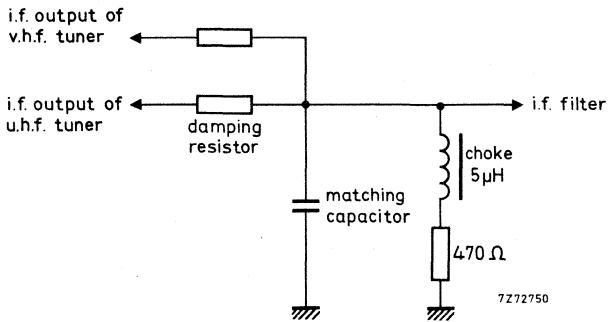

Fig. 8.
The tuner needs a d.c. path from the i.f. output terminal (10) to earth, preferably via a choke of approx.  $5\ \mu\text{H}$  outside the tuner (Fig. 8). Where the tuner is used in combination with a v.h.f. tuner, this choke can be common for both tuners; a resistor in series with the choke can make ineffective the i.f. output circuit of the switched-off tuner. For damping the i.f. output circuit and matching the i.f. output impedance of the tuner to the i.f. amplifier, a series resistor and a parallel capacitor as shown in Fig. 8 should be used.